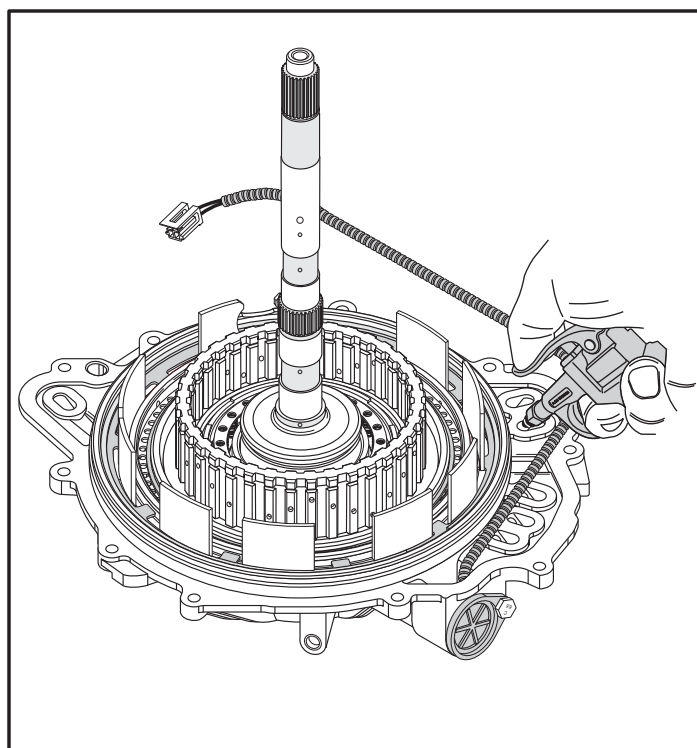

Figure 148
*Note: You can install the housing into the completed rear cover with the number 11 thrust bearing in place, as shown in Figure 148, and carefully apply shop air to the 4-5-6 clutch feed hole to dislodge the piston.*